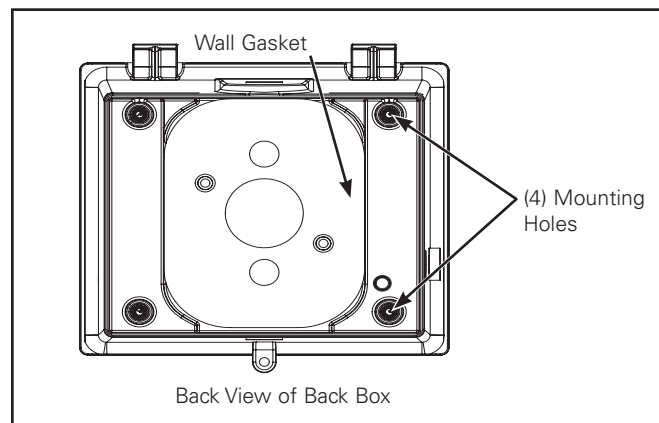

Figure 1.
2. Place inverted back box on solid surface. Using a 9/32" bit, drill out the four mounting holes. (Figure 1)